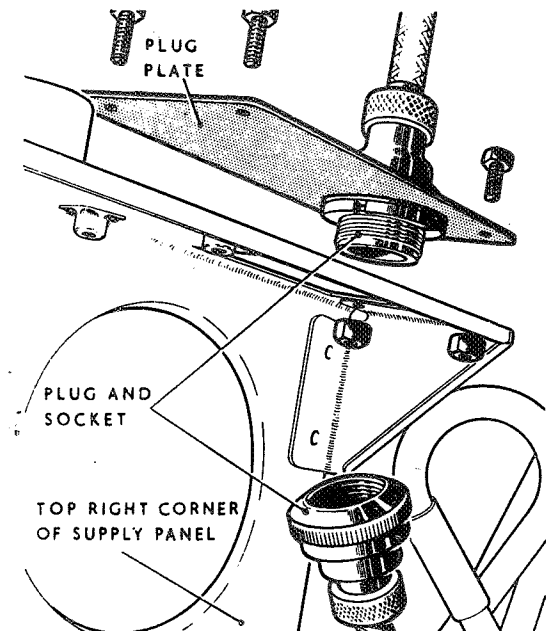

Fig. 2. G4F compass cable plug mounting on supply panel
- (4) Disconnect cable assemblies C1, C2, C4 and F49 at the plugs located at the top and bottom of the panel. Seal off the plugs and sockets with approved caps and covers, and stow the cable assemblies away from the panel.
- (5) Disconnect all the leads of cable assemblies IF1, IF2, IF5, C5, F2, F4, F7, F9, F21, F23 and F52 from the terminals on the panel. Also disconnect the D.M.E. connector from the panel. Remove the straps securing these leads, insulate all bare ends, coil up the cable assemblies and stow out of the way.
- (6) Disconnect the cable GC2 (G4F compass) from the plug and socket break mounted at the top of the supply panel (fig. 2). Stow this cable. Remove the plug and socket mounting plate, with cable GC3 still connected, from the top of the panel and stow it clear of the panel.
- (7) Disconnect the two earth leads E5A from earth point 5, located on the battery mounting. Remove any straps securing this lead and coil back to the supply panel.
- (8) Disengage the panel from the aircraft structure by removing the six screws from the forward and rear edge, together with the six nuts from the stud projecting through the panel channel members.